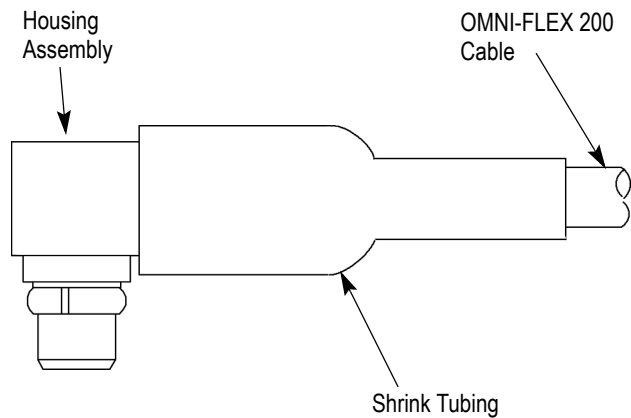

Figure 7
8. For OMNI-FLEX 200 cable only -- Slide shrink tubing over the cable and crimped ferrule. Heat the shrink tubing and shrink it into place. See Figure 7.